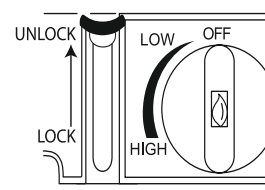

Fig. 1
1. Turn the Ignition Knob to 'OFF' and set the Cartridge Lock Lever to 'UNLOCK'. (Fig. 1)